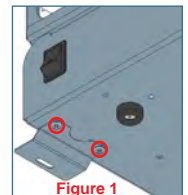

Figure 1
3. Hand thread the screws through each hole, and secure using a #2 Phillips screwdriver (*Figure 1*).